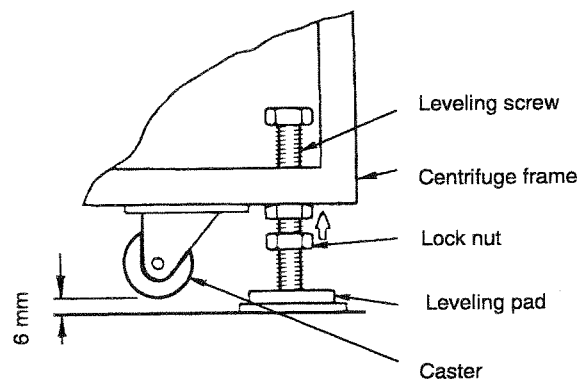

Figure 2-2. Leveling Adjustment
1. Determine which of the four bottom corners of the centrifuge is most difficult to access, then place a leveling pad (Catalog No. 45208, supplied with the centrifuge) under the leveling screw at that corner (see figure 2-2).
3. Using a 24 mm open-end wrench, secure the lock nut on the leveling screw to the centrifuge frame by tightening the nut in the direction of the arrow in figure 2-2.
9. When centrifuge is level, make sure leveling screw at each leveling pad is secure. Next, secure the lock nut at each of the three corners to the centrifuge frame using a 24 mm open-end wrench, tighten each nut in the direction of the arrow in figure 2-2.